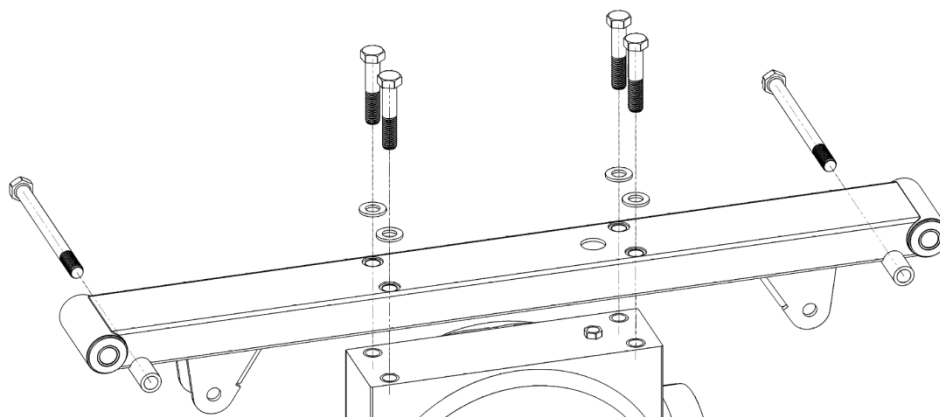

Figure 2. Install the cross member (make sure the vent hole is above the vent), and slip the upper shock bolts in place for now
- 4) Bolt the top crossmember to the top of housing with the upper link mounts facing down towards the ground, and the vent hole on the right (passenger) side as shown in Figure 2. Attach using QTY=4, $\frac{1}{2}$ " X 2- $\frac{1}{2}$ " bolts, and 12mm washers supplied in the kit (metric washers are used here due to their small outer diameter). **Torque to 70-75 ft lbs.** Slip QTY=2, $\frac{1}{2}$ " X 6 $\frac{1}{2}$ " Bolts into the upper shock sleeves. Make sure that the threaded end is facing the rear of the housing. The bolts are slid into the sleeves now, because once the cross member is lifted in place and bolted to the saddles, there is no room to slide the bolts through sleeves.